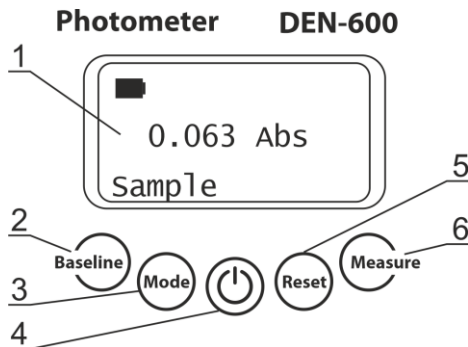

Figure 1. Control panel
- 5.1 Connect the external power supply to electric circuit. Switch on the unit using the green **Power** key (fig. 1/4) on the control panel.
- 5.2 The following indication may be shown on the display (fig. 1/1):
- 5.3 **Measurement mode selection (Figure 2).** Select measurement units by pressing **Reset** key for McF (fig. 1/5) and **Mode** key for Abs (fig. 1/3).
- 5.4 **Baseline calibration.** Unit requires initial baseline (only in Abs mode), e.g., depending on the reaction vessel or suspension colour. Insert the reaction vessel with or without suspension into the unit and press the **Baseline** key (fig. 1/2).
- 5.5 **Choosing mode of operation.** Press the **Mode** key (fig. 1/3) to circle through available operation modes, **Sample**, **Save** and **Read**.
- 5.5.1 **Sample mode** - measurement without saving the results. Place the sample in the unit and press the **Measure** key (fig. 1/6). Display shows the measurement result.